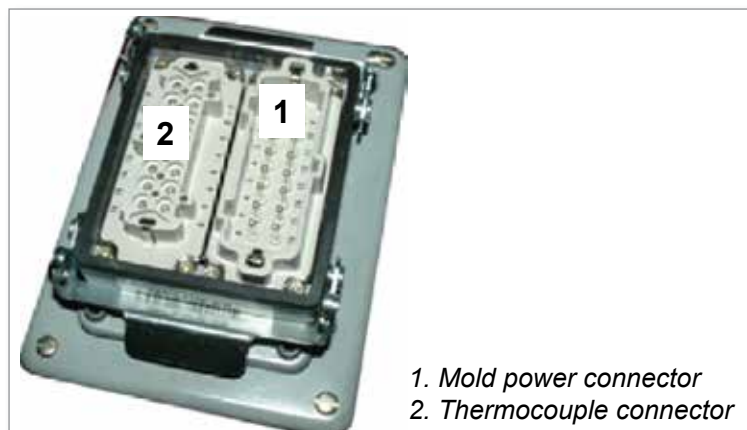

Figure 8-1 Mold plug
2. Measure the resistance between each pin of the mold power connector. See “Figure 8-1 Mold plug” and ground (mold base). The reading should be ∞ (infinity). Occasionally, the electric heaters accumulate moisture, which can reduce the resistance value to between 100 K Ω to 10 M Ω . The controller should be designed to remove this moisture during startup.
1. Measure the resistance between each pair of thermocouple wires on the mold’s thermocouple connector. See “Figure 8-1 Mold plug”.